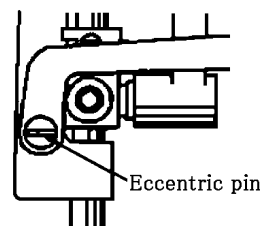

Fig.2
2. Turn the eccentric pin, adjust the needle location.(Fig. 2)